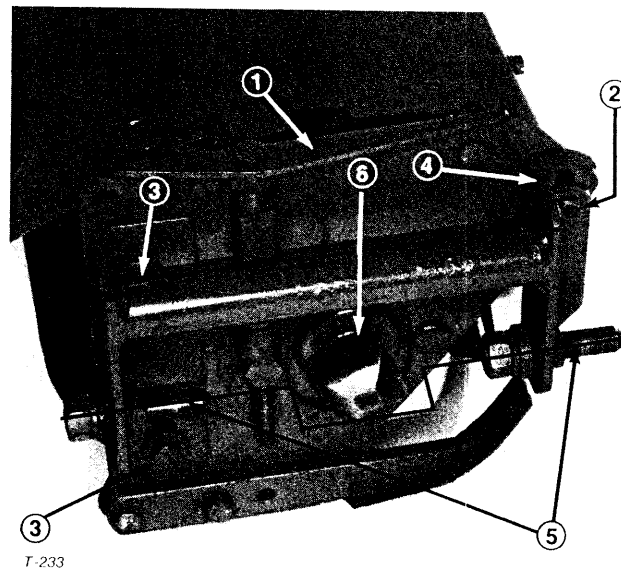

Figure 29
performance will be deteriorated (Fig. 29). Also, due to normal wear of the reel and bedknife, the drive balls on reel shafts of the front units will drop below the centerline of the pivots. This affects pivot action of the balls and causes excessive wear on the drive balls. If this condition continues, the reel drive shaft will come into contact with the intermediate frame. Periodically check for this condition and readjust as follows:
A. Loosen nut at front of unit and capscrews at rear securing pivot frame (Fig. 29).
B. Adjust pivot frame until flange is parallel, placing unit at proper attitude (Fig. 29).
C. Tighten capscrews and nut to secure adjustment (Fig. 29).
B. Loosen nut and capscrews securing pivot frame and adjust pivot frame until pivot pins centerlines are aligned with center of drive ball (Fig. 29).